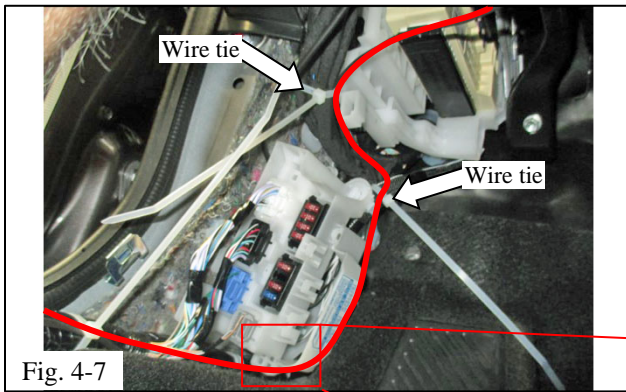

Fig. 4-7
(g) Route the wire harness up behind the connector block and secure the harness to the OE harness with three (3) wire ties as shown against the connector block (Fig. 4-7).